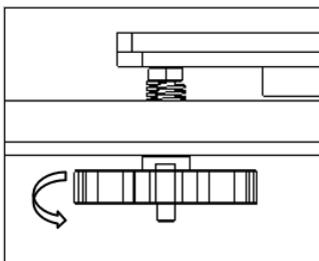

Fig 1
Step 2. Tighten the hand nuts under the bed to move down the bed to the lowest position (Fig 1).